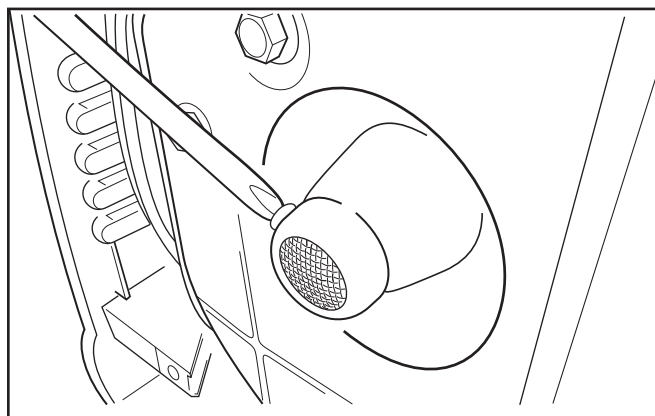

Figure 12
2. Remove screw (Figure 12) that attaches spark arrester screen muffler. Remove spark arrester screen.